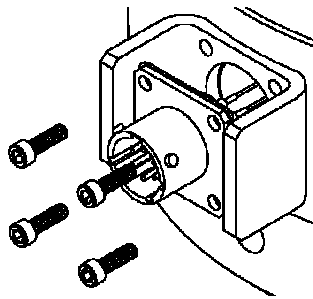

Figure 9 - Attach the Connector Protector (54823-02) using #4-40 x 3/8" Socket Head Cap Screws
5. Attach the connector protector (54823-02) to the load cell with the #4-40 x 3/8'' socket head cap screws using a 3/32'' hex wrench as shown in Figures 9 and 10.